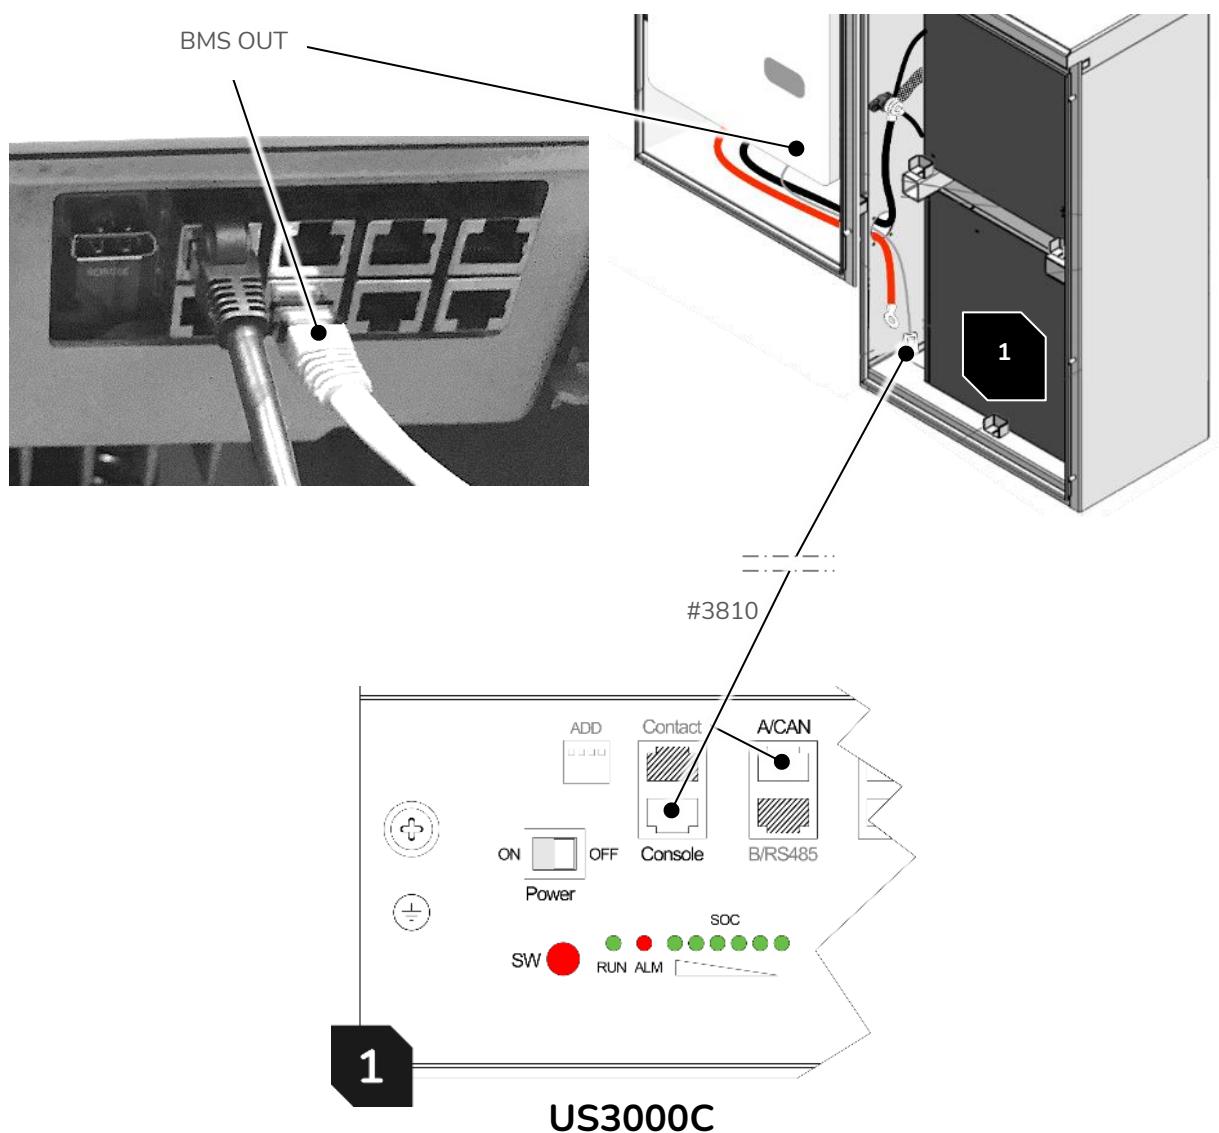

Figure 11: PCS to BMS communication cable connection.
2. Route the other end of the cable through the PCS port hole and terminate in the cable in the [BMS OUT] port as shown in figure 11.
2. Press and hold the Start button on the master battery module for 0.5 seconds. The master battery is the lower-front module in the battery cabinet. Wait for the battery module to initialize to the normal/idle state. See also figure 11, module position 1 for reference.